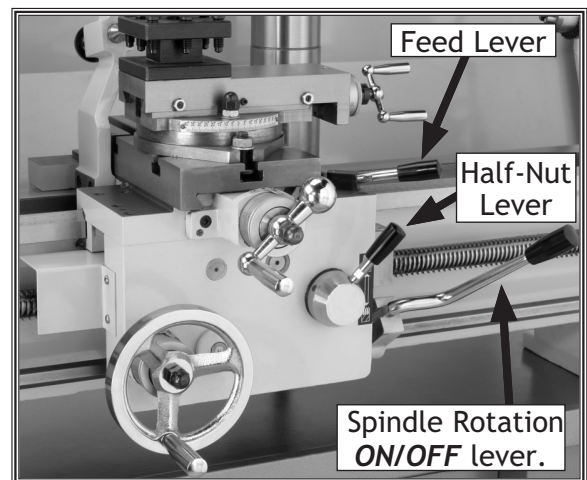

Figure 13. Apron control levers.
5. Move the half-nut lever upward to disengage the apron, and move the feed lever to the neutral or central position (see **Figure 13**).
6. Move the spindle rotation ON/OFF lever to its central position (**OFF**) as shown in **Figure 13**, and connect the lathe to power so the green lamp is lit.
Note: The *Spindle Rotation ON/OFF Lever (Figure 13)* on the apron starts the spindle motor in a particular direction.